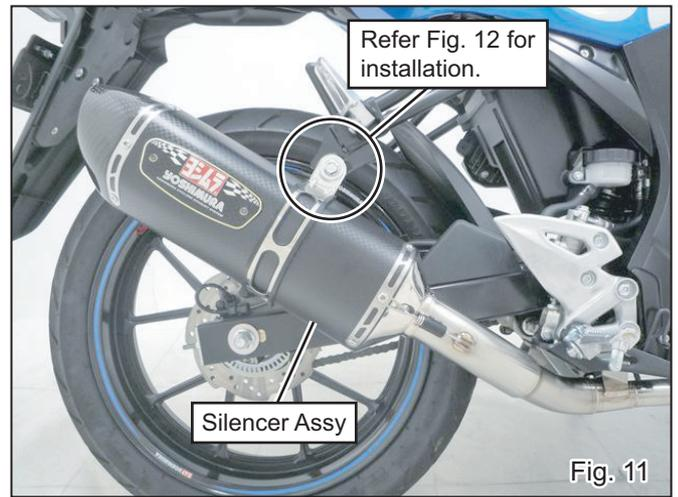

Fig. 11
- 9) Place Silencer Band Rubber into Silencer Band and attach Silencer Band on Silencer Assy. Then, fix Silencer Band to passenger's foot peg bracket with stock bolt, washer, nut and Washer M8x26 (See Fig. 11 & 12). Tighten bolt by hand only at this stage.